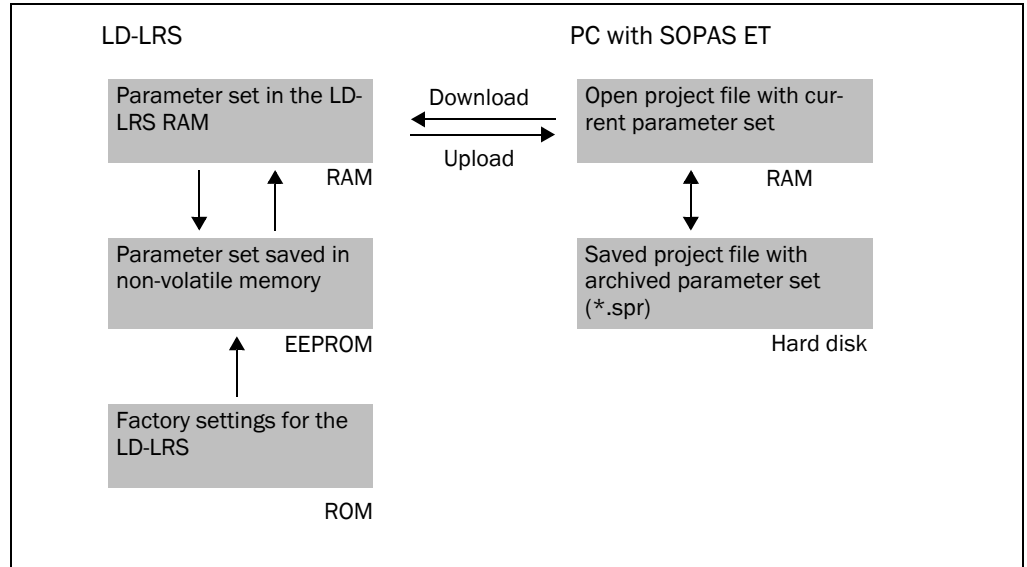

Fig. 41: Principle of data storage
4. Open project file (spr file with configuration data) using SOPAS ET and transfer configuration to the device (see fig. 41 on page 59).